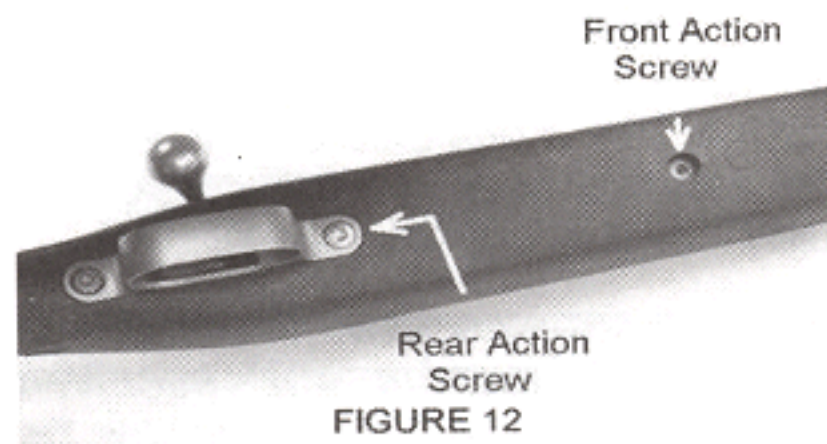

FIGURE 12
2. REMOVE BOLT. Raise bolt handle, pull rearward, loosen rear action screw (see Figure 12) with a 5/32" Allen wrench and slide bolt out the rear of the receiver.
Simply reverse the procedures for "DISASSEMBLY". Before installing the vent liner and breech plug, apply a light coat of anti-seize compound to the threads of each. This will ensure that these parts will unthread the next time the rifle is completely disassembled. Failure to apply anti-seize compound to these parts could result in the need to ship your muzzleloader back to Savage Arms, Inc. for disassembly – for which you will be charged. Note: Failure to properly seat the breech plug during reassembly will prevent the bolt from fully closing with a primer. Excess anti-seize compound can result in misfires. Be sure the breech plug/vent liner is tightened securely prior to loading. A loose breech plug may make the bolt hard to close and allow some unintended pressure and debris to flow rearward. This may also result in a hard to remove breech plug when using Triple Seven®. Always wipe the bore clean with a dry patch before loading. The action screws should be tightened securely (front first and then rear - see Figure 12).
*THE REAR ACTION SCREW (SEE FIGURE 12) HOLDS THE BOLT IN THE RECEIVER. LOOSENING THIS SCREW WILL ALLOW THE BOLT TO BE REMOVED.*
- Place the rifle upside down on a table or suitable hard surface so the sights are down and the trigger guard is facing upward (see FIGURE 12).